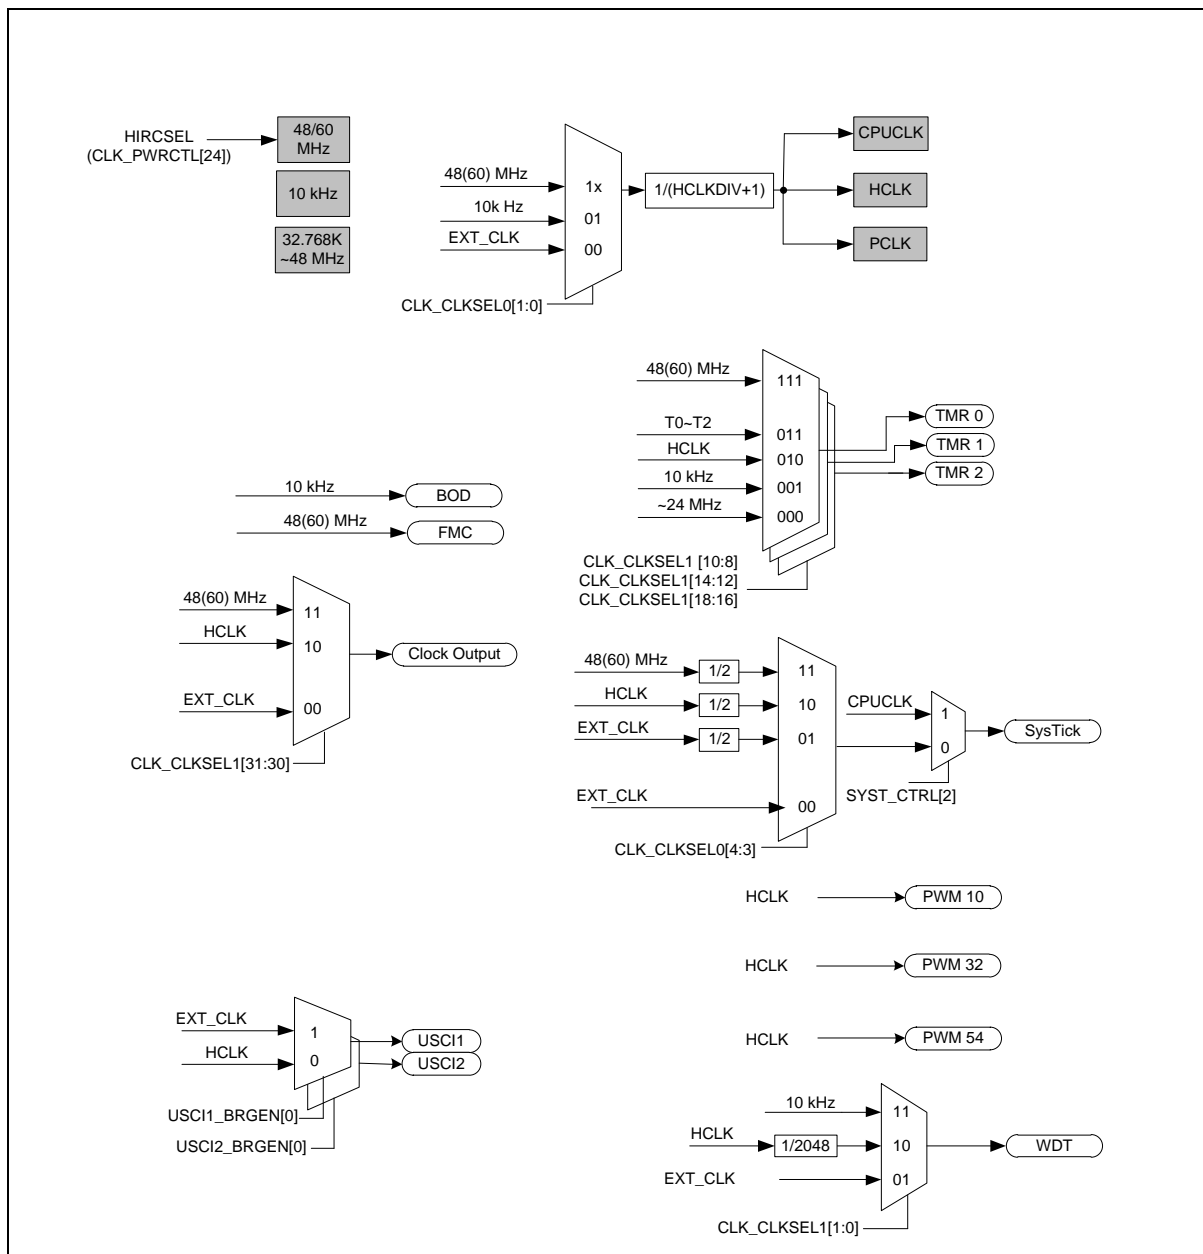

Figure 6.3-1 Clock Generator Global View Diagram
The clock controller generates clocks for the whole chip, including system clocks and all peripheral clocks. The clock controller also implements the power control function with the individual clock ON/OFF control, clock source selection and clock divider. The chip enters Power-down mode when the Cortex®-M0 core executes the WFI instruction only if the PDEN (CLK_PWRCTL[7]) bit set to 1. After that, chip enters Power-down mode and waits for wake-up interrupt source triggered to exit Power-down mode. In Power-down mode, the clock controller turns off the external clock input (EXT_CLK) and 48(60) MHz internal high speed RC oscillator (HIRC) to reduce the overall system power consumption. Figure 6.3-1 shows the clock generator and the overview of the clock source control.